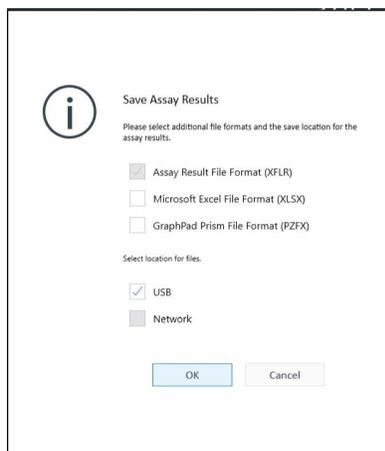

Figure 13. Save results.
- 8 After the assay is complete, the data is automatically saved to a USB flash drive (if inserted), the local drive, or the networked drive (if configured). A message appears indicating the location of the save assay result File (\*.xflr). See **Figure 13**.
- 9 After the assay is complete, data is automatically saved on the assay result file format to the location specified at the start of your assay (USB flash drive, network location, or locally). It is mandatory to save result data in the assay result file format after completing the assay and will always be checked ON. You can also save result data as an Excel file (.xlsx) and GraphPad Prism file (.pzfx) directly from the XF HS Mini Analyzer as well. Check the box next to the desired file formats and click **OK (Figure 13)**.